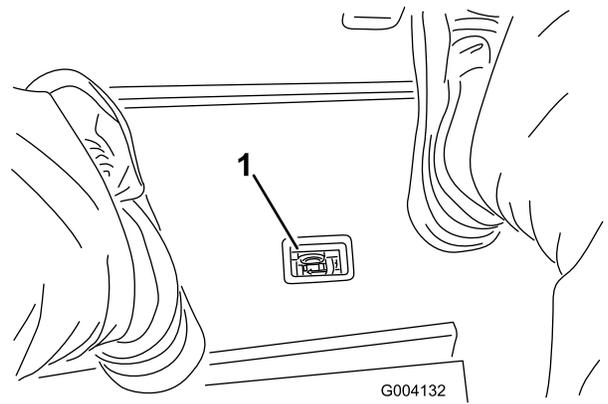

**Figure 146**
2. Place a large drain pan under the manifold (Figure 146) on the bottom the hydraulic tank; refer to Checking the Hydraulic-Fluid Level \(page 81\).